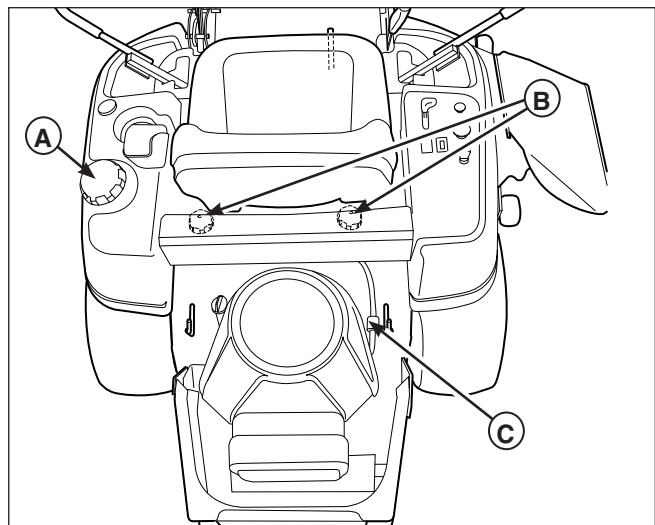

Figure 25. Maintenance
2. Remove the fuel cap (see A, Figure 25).